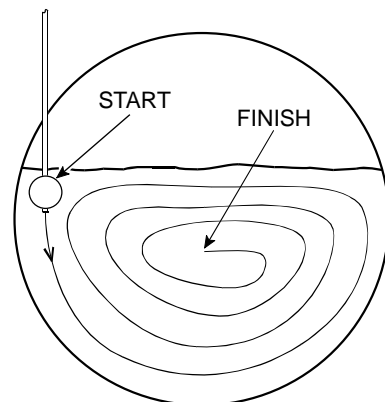

Figure 1-4. 2-D Method Alternate
- Measure distance D (Figure 1-4).